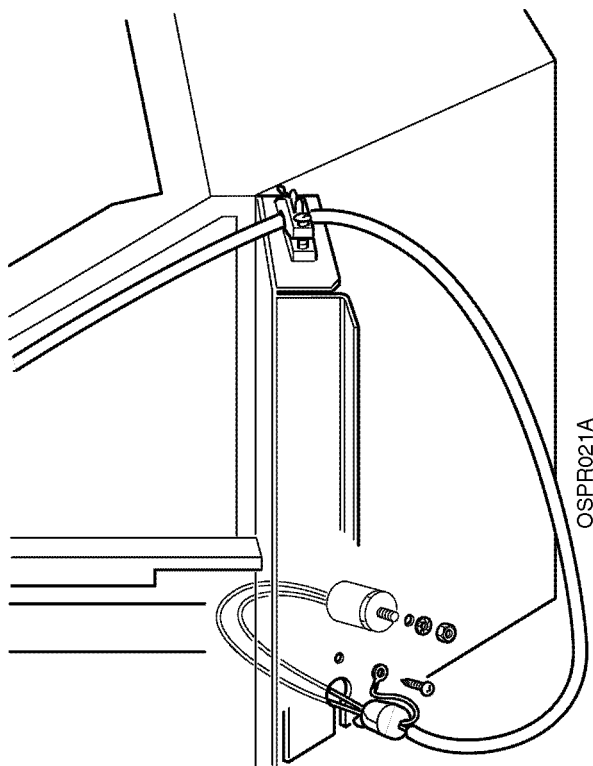

Fig. 16
- 1. Disconnect the TTB connector, unscrew the TTB thermostat from the draft diverter and open the cable clamp. Unscrew earth connection, see Fig. 16.